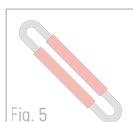

Fig. 5
NoCut® sleeve also offers the perfect all-round cut protection for our heavy-duty round slings. Simply pulled onto the round sling, the protective sleeve made from HPME fibres protects heavy-duty round slings with a load capacity of up to 25 t at the sharp edge of the load. NoCut® sleeve can also be fitted by the user as shown in Figure 3. Single legs of a round sling can also be fitted with NoCut® sleeve at the factory as shown in Figure 5. Ask us about it!
**i** Special designs available on request. Protective sleeves can also be fitted by the user as shown in Fig. 3. Fitting by the factory as shown in Fig. 5 on request.
Protective sleeves can also be fitted by the user as shown in Fig. 3. Fitting by the factory as shown in Fig. 5 on request.